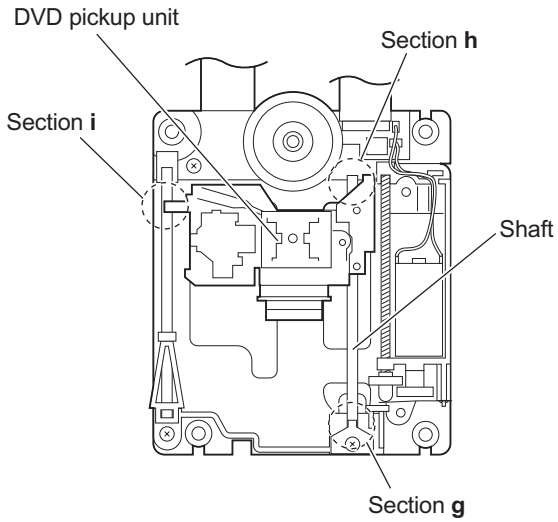

Fig.9
- (2) Remove the shaft from the section g and then remove the shaft from the section h. (See Fig.9.)
- (3) Disengage the section i of the DVD pickup unit and then remove the DVD pickup unit with the shaft.
- (4) Pull the shaft out of the DVD pickup unit.
- (5) Remove the two screws F attaching the SW. actuator.